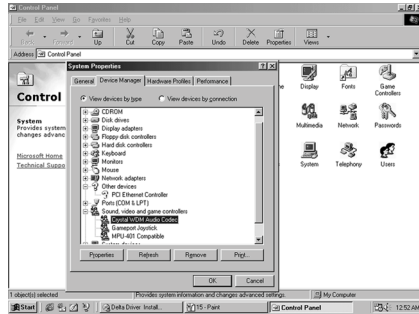

Figure 15
- Double click on the "**System**" icon → Select "**Device Manager**" → Click on "+" symbol to the left of the "**Display adapters**", the screen will appear Figure 15. Highlight the "**Audio Driver For Win98**" driver is installed successfully.